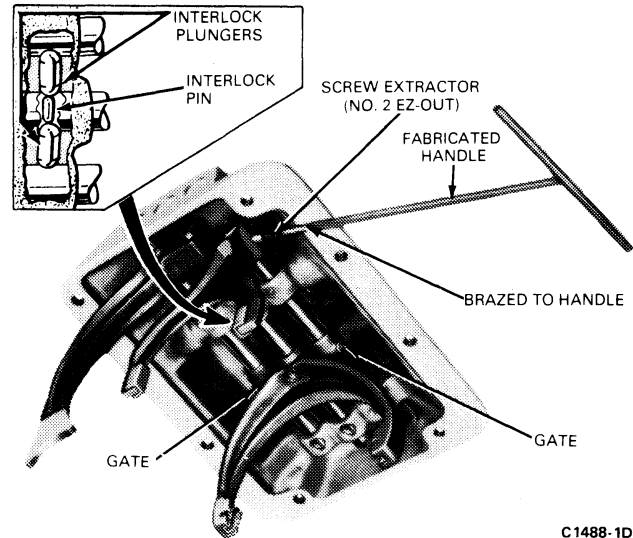

FIG. 12 Removing Shift Fork Spiral Pin
5. Remove the spiral pin from the first- and second-speed shift fork and the gate with screw extractor shown in Fig. 12. To insert the screw extractor into the spiral pin, tap lightly on fabricated handle while slowly turning counterclockwise. When extractor grips the pin, stop tapping and continue turning until spiral pin is removed.